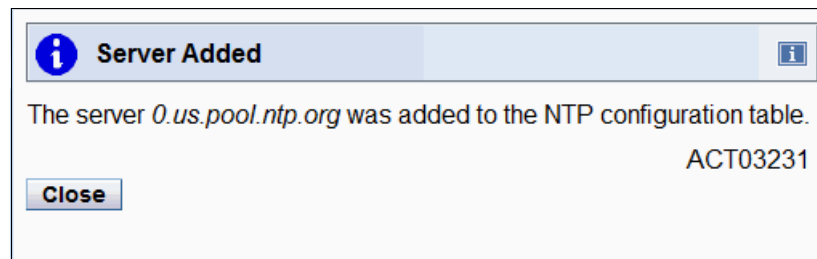

Figure 9-7 HMC: Customize Console Date and Time adding NTP server to the HMC
5. During this process, the HMC tries to communicate with the NTP server you specified by using the NTP protocol to confirm whether it is reachable. If this communication successfully completes, the window shown in Figure 9-7 is displayed. You can add multiple NTP servers by repeating step 4 on page 515.